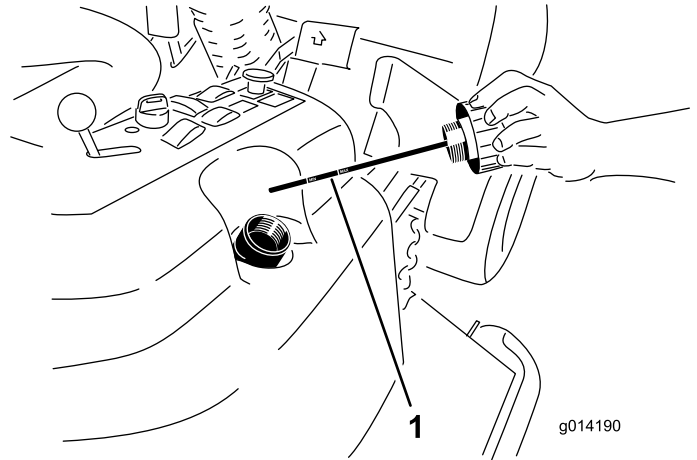

Figure 52
4. Remove the hydraulic-fill cap (Figure 52) from the filler neck.
5. Remove the dipstick and wipe it with a clean rag (Figure 52).
6. Screw the dipstick all the way into the filler neck; then remove it and check level of fluid (Figure 52).